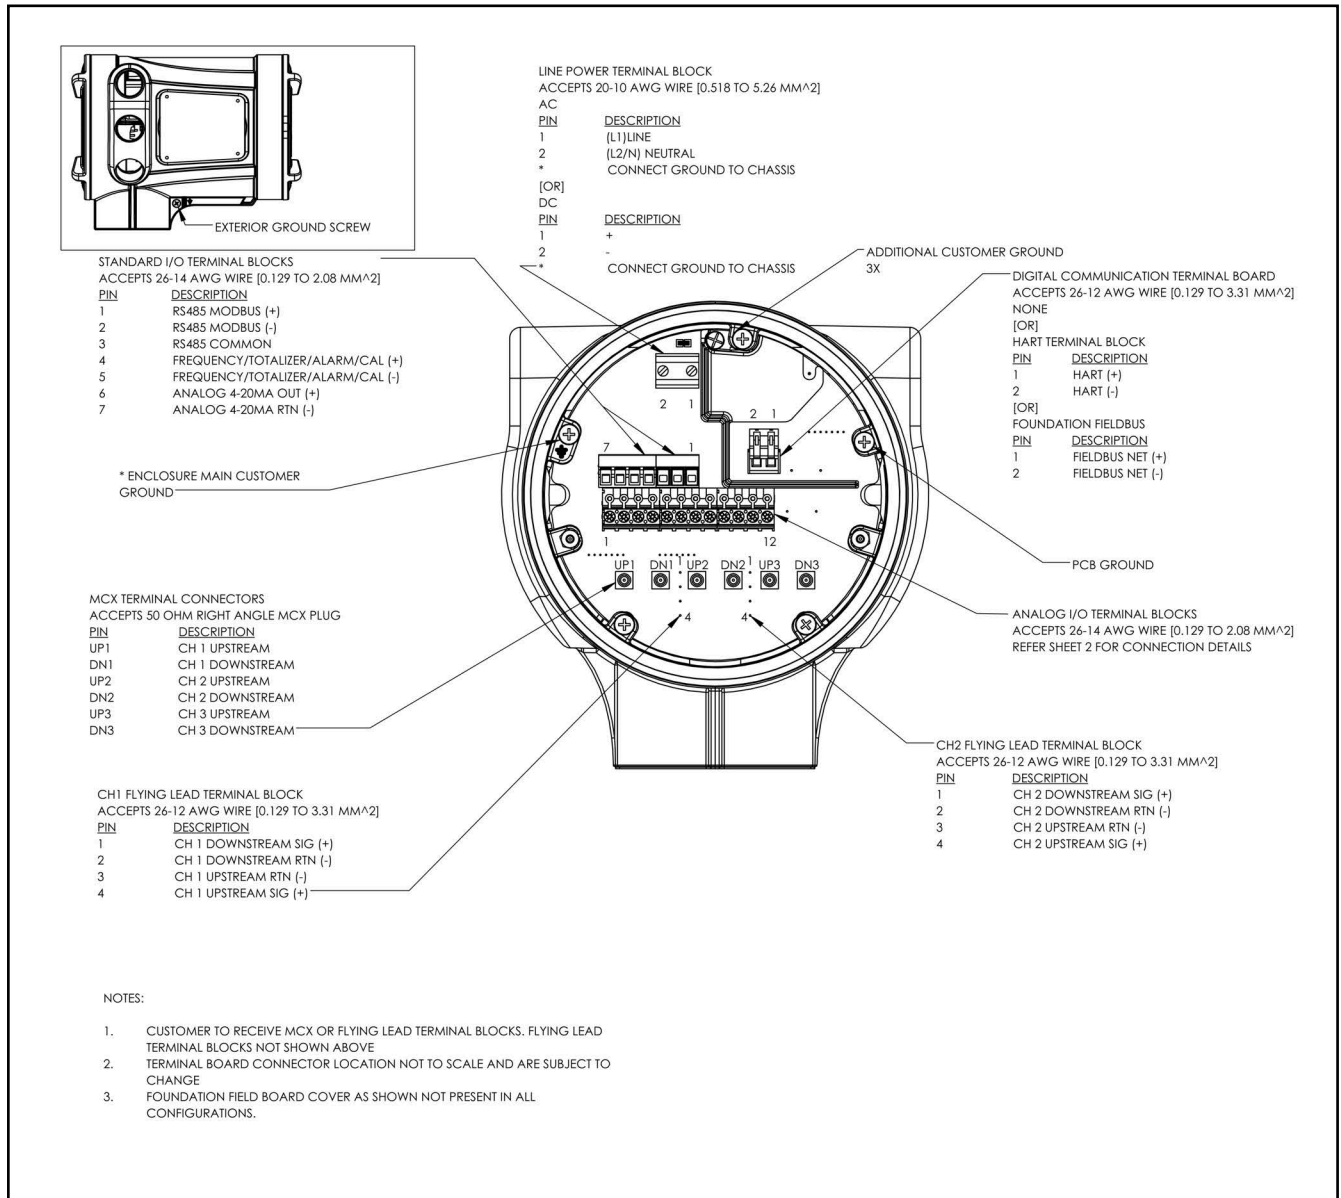

Figure 12: XMT1000 Terminal Board Wiring Diagram
This section contains instructions for making all the necessary electrical connections for the XMT1000 flow transmitter. Refer to *Figure 12 on page 13* for a complete wiring diagram.
WARNING! Proper grounding of the XMT1000 enclosure via the external grounding screw on the enclosure (see *Figure 12 on page 13*) is required to prevent the possibility of electric shock. All ground screws should be hand tightened only, to a maximum allowable torque of 2.5 N-m (22 in-lb).
3. Refer to *Figure 12* on page 13 for the location of the terminal block and wire the analog output as shown. Secure the cable gland.
3. Refer to *Figure 12 on page 13* for the location of the terminal block and wire the digital output as shown. Secure the cable gland. Refer to *Chapter A, Specifications*, for the load and voltage requirements.
To wire to this RS485 serial port, refer to *Figure 12 on page 13* and complete the following steps:
The XMT1000 flow transmitters has the option for an additional 4–20mA/HART output or a Foundation Fieldbus output on terminal block #1 (TB1) per *Figure 12 on page 13*. In the HART system an active signal is used, whereas FF corresponds to a passive signal. Connections to this output may be made with standard twisted-pair wiring, but the current loop impedance for this circuit must not exceed 600 ohms.
3. Refer to *Figure 12 on page 13* for the location of the terminal block and wire the HART or Foundation Fieldbus output as shown. Secure the cable gland.
The XMT1000 flow transmitters has the option for additional analog outputs, analog inputs, and RTD inputs on terminal block #2 (TB2) per *Figure 12 on page 13*. Connections to this output may be made with standard twisted-pair wiring.
3. Refer to *Figure 12 on page 13* for the location of the terminal block and wire the additional I/O output as shown along with the table below.
Refer to Figure 12 on page 13 and Section 2.7.1, "Wiring the Analog Outputs" to locate the Channel 1 and Channel 2 flying lead terminal blocks.
Refer to *Figure 12 on page 13* to locate the terminal blocks and connect the line power as follows:
3. Route the cable through the conduit hole and connect the line power leads to the power terminal, using the pin number assignments shown in *Figure 12 on page 13*.